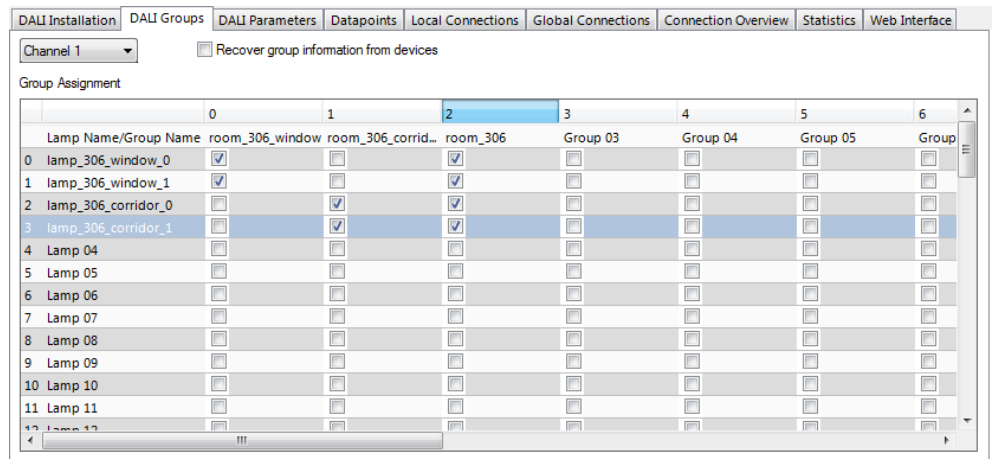

Figure 26: LINX Configurator software, DALI group configuration.
- Add the two lamps near the window to group 0, the two lamps near the corridor to group 1 and add all lamps in the room to group 2. Assign names to the groups as shown in Figure 26.